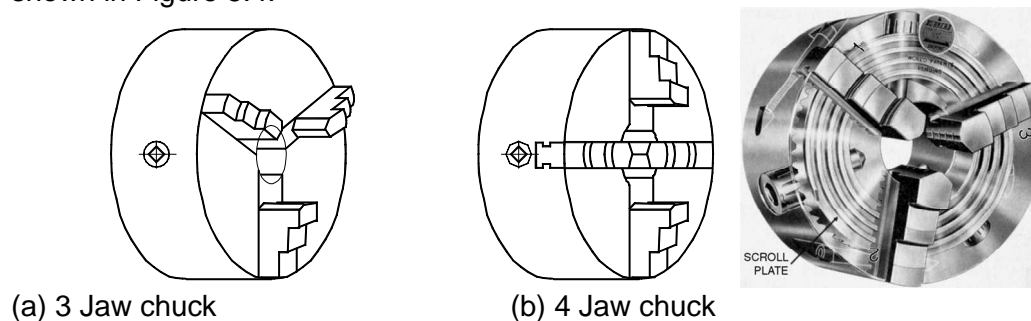

Figure 1: Different types of chucks
5.1.1 Three-jaw chuck: In a three-jaw chuck all the jaws are made to slide simultaneously by an equal amount within the slots provided on the body by rotating any one of the three pinions with the help of a handle. Figure 1(a) shows a three-jaw chuck. This is also known as a *self-centering* or a *universal* chuck. This chuck is suitable for holding round or hexagonal and other similar shaped workpieces. The gripping force of the 3-jaw chuck is less than that of the 4-jaw chuck,
5.1.2 Four-jaw chuck: The 4-jaw chuck is a very versatile work holding device, able to hold cylindrical as well as odd-shaped parts for machining. A four-jaw chuck is shown in Figure 1(b). In a four-jaw chuck, the jaws can be moved and adjusted independent of each other. The jaws are individually reversible to best match the shape of the workpiece. Hence, this is also known as *independent jaw* chuck. It can be also used for machining *eccentrics* by offsetting the workpiece. Its grip is more powerful than that of the 3-jaw chuck and gives better adjustment as you have control over each individual jaw.